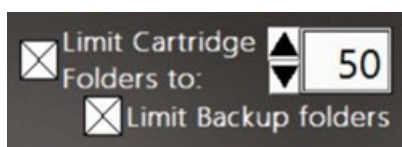

Figure 34: Limit Cartridge Data & Backup Folders controls
**Note:** If the instrument is configured to back up the data to a location on the internal hard disk (C:\), a second option appears (Limit Backup folders) . Checking this box limits the number of folders in the C drive backup folder (Figure 34).